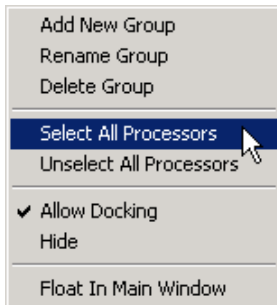

Figure 3-51. Moving All Processors into the Default Group
3. Choose **Select All Processors** from the popup menu, shown in Figure 3-51.